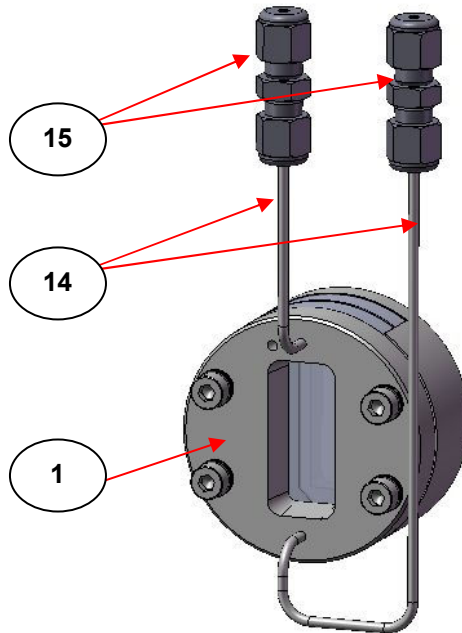

Fig 10. Flow Liquid Sample Cell GS20560 and GS20590 Series
The Flow Liquid Sample Cells GS20560 and GS20590 Series are respectively based upon the standard static GS20500 and GS20510 Series cells for their construction, but the front plate (1) is different. (See Fig 10.)